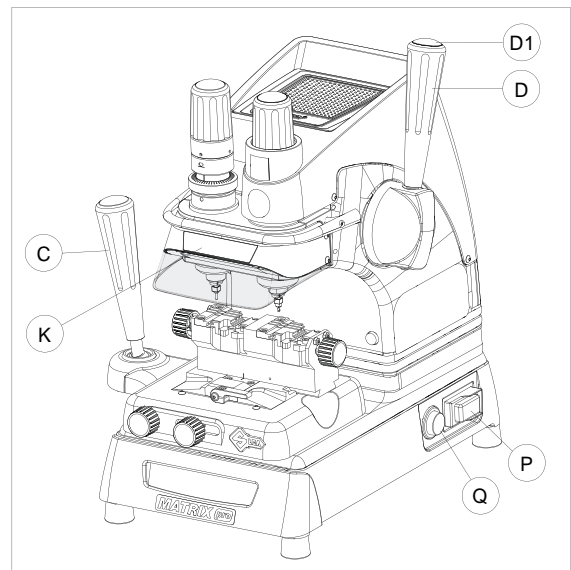

Fig. 13
- 1) press the luminous switch (Q) to power the motor.(Fig. 13).
- 2) Press the push button (D1) on the vertical axis lever (D) and lower the lever.